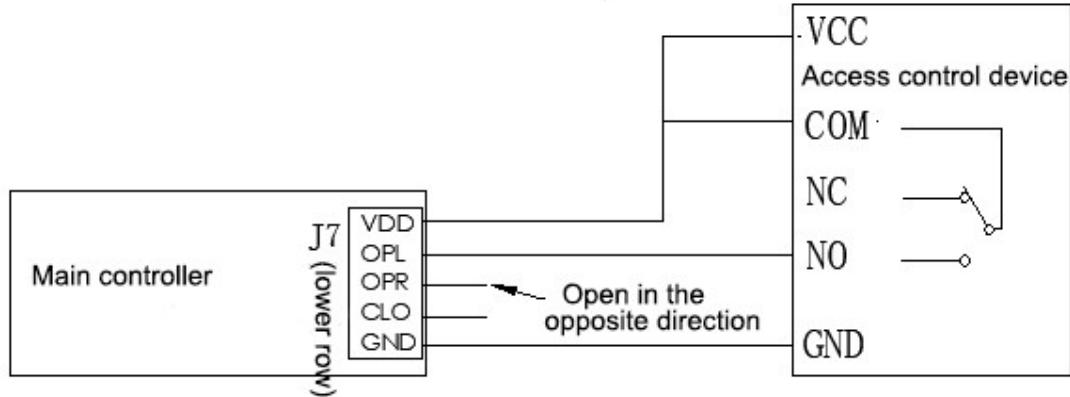

Figure 5-1 Wiring Diagram of Access Control Equipment 1
(1) When using our integrated access control system, the wiring between the access control device and the turnstile is shown in Figure 5-1.